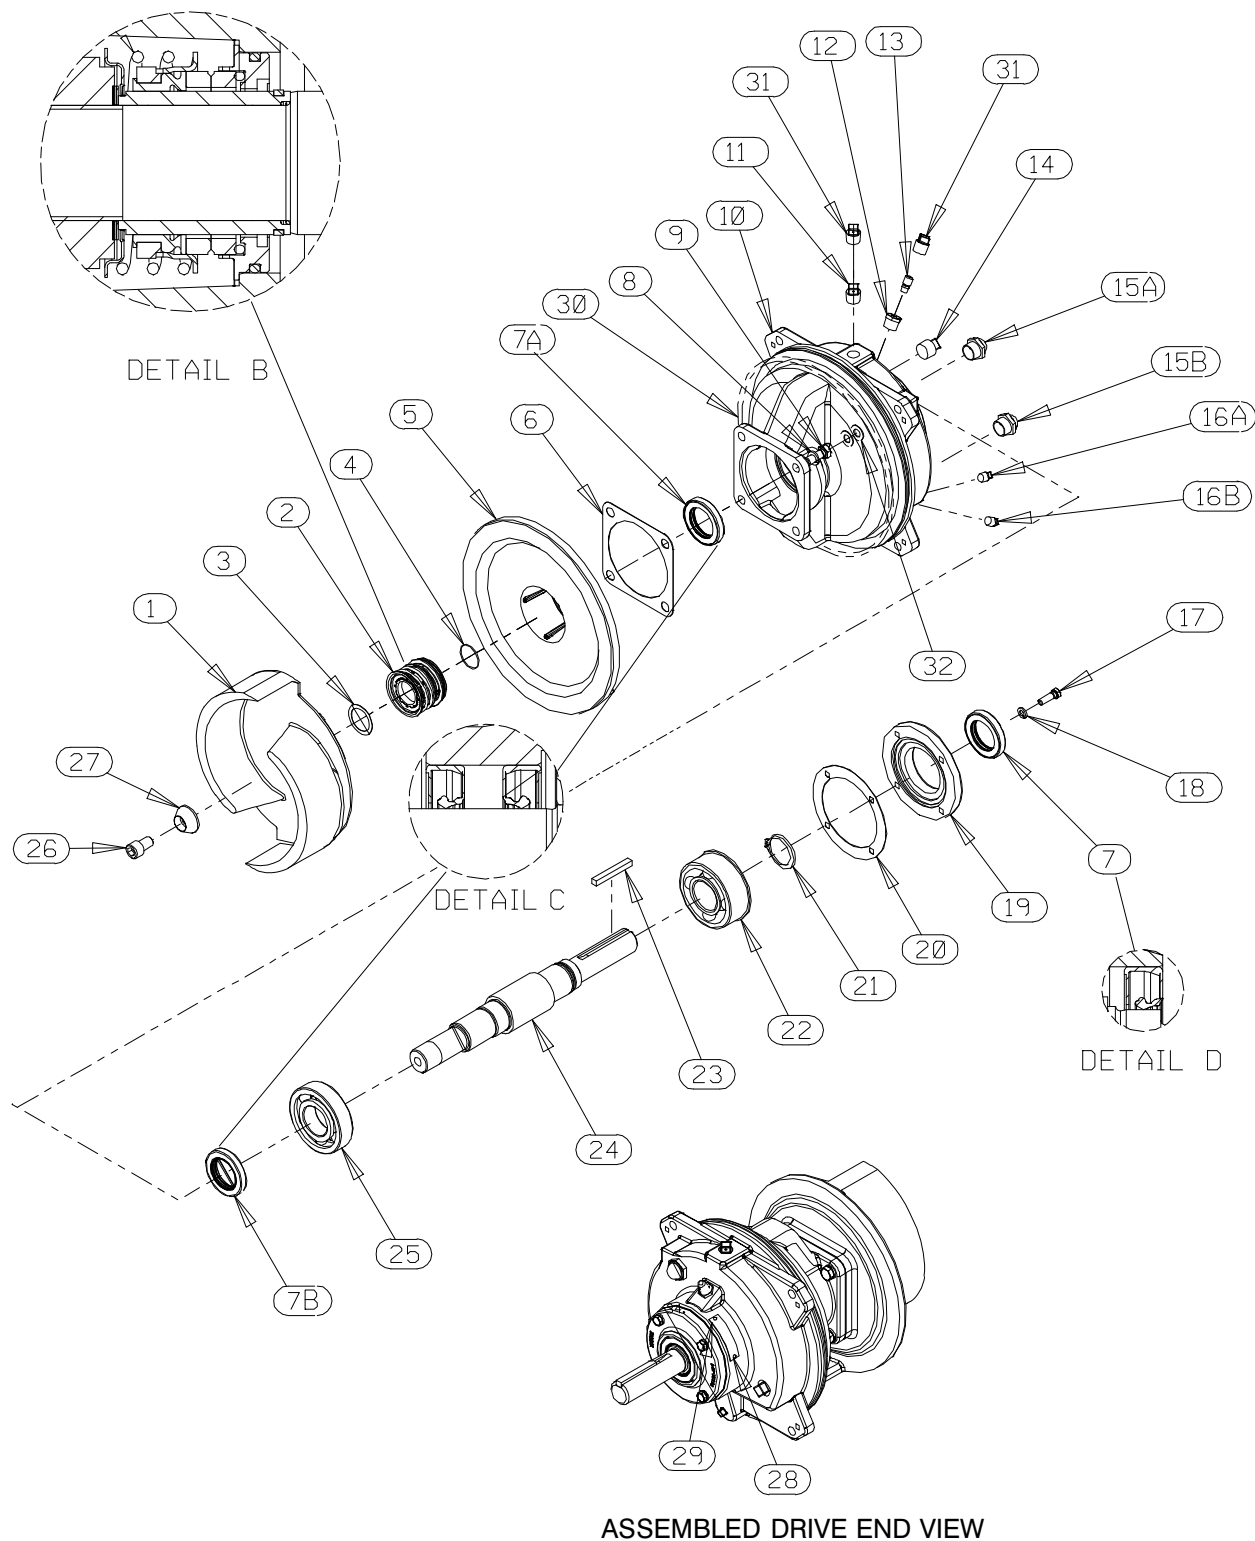

Figure 2. 44163-331 Repair Rotating Assembly
**Rotating Assembly Removal****(Figure 2)**
*To install the tool, remove the vented plug (11, Figure 2) from the bearing housing, and screw the longest length of pipe into the vent hole until fully engaged. Install the tee, and screw the handles into the tee. Use caution when lifting the rotating assembly to avoid injury to personnel or damage to the assembly.*
Remove the bearing housing O-ring (30, Figure 2).
#### (Figure 2)